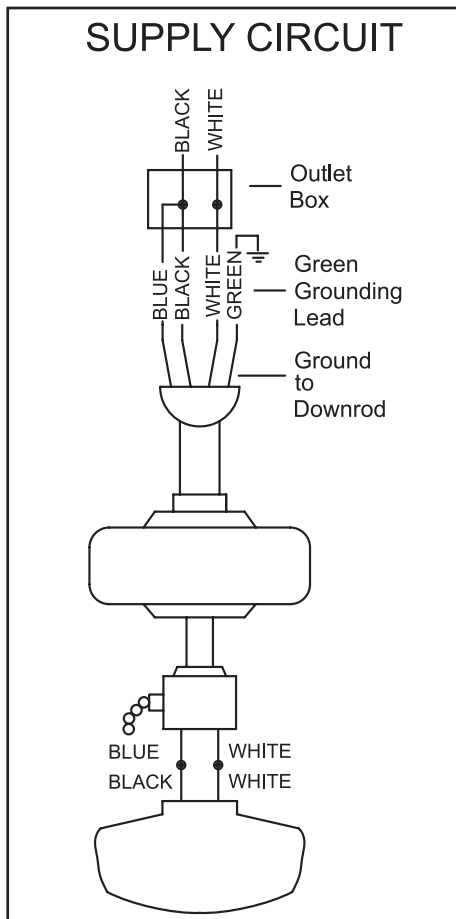

Figure 13
Step 2 Connect the fan light supply (blue) wire and the fan supply (black) wire to the black household supply wire as shown in figure 13.